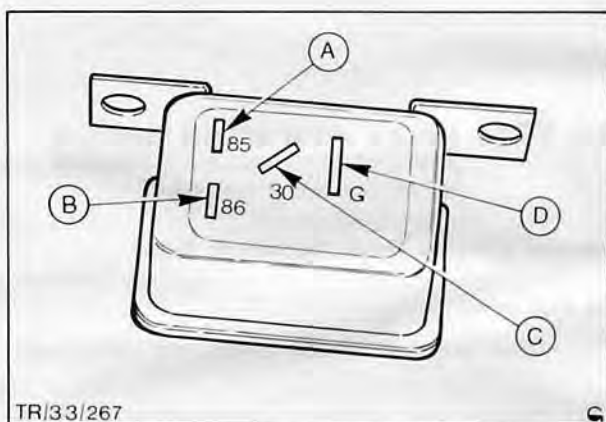

Fig. 47. Glow-plug relay connections
4. Wires should be connect to relay as follows; (also refer to Fig. 47).